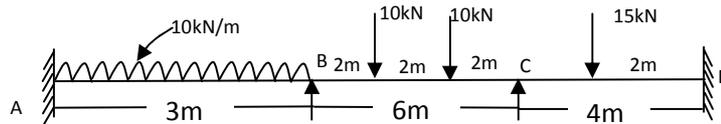

Fig.Q4
4. Analyze the continuous beam shown in Fig.Q4 using moment distribution method. Draw SFD and BMD.